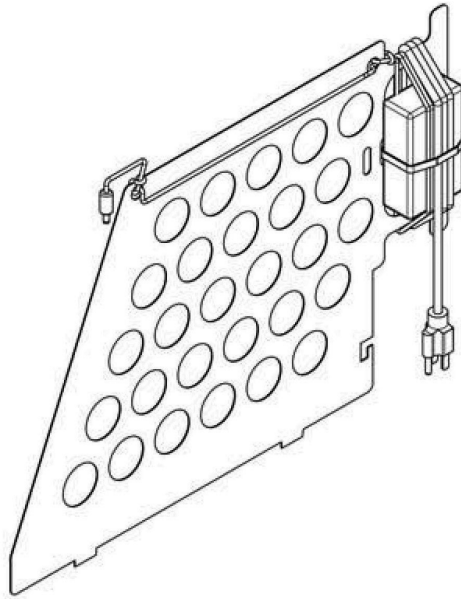

Figure 4-10. A divider with a power brick properly attached.
Step 5. Wrap the remaining length of power cord around the power brick (see Figure 4-10, page 12).